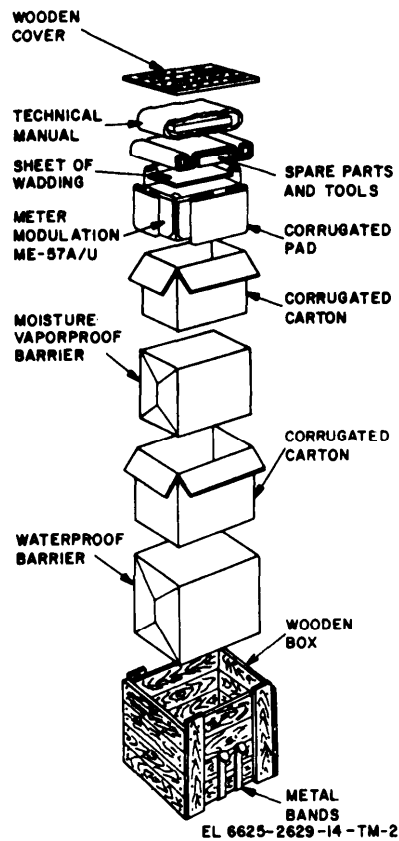

Figure 2-1. Typical packaging.
a. *Packaging Data.* When packed for shipment, the modulation meter is placed in a waterproof carton and packed in a wooden packing case. A typical packing case and its contents are shown in figure 2-1.
b. *Removing Contents (Wooden Packing Case).* Perform all of the procedures in (1) through (5) below when unpacking an equipment in a wooden packing case.
- (1) Cut and fold back the metal straps.